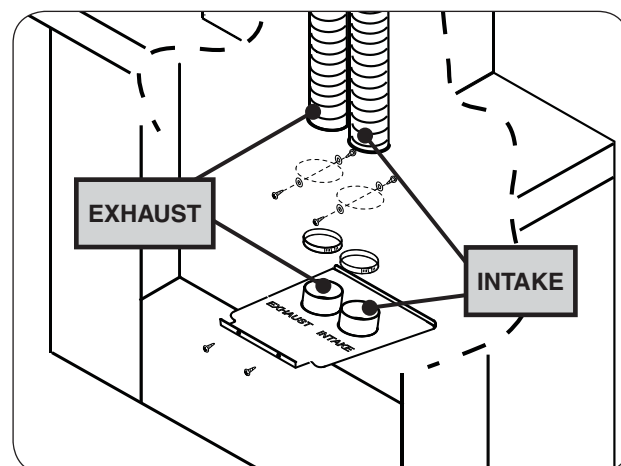

Fig. 25-3 Install vent adapter
7. Remove any excess slack in the flex line. Then attach the flex liners to the vent adapter using the four provided #10 x $\frac{3}{4}$ " screws, flat washers, and a Phillips screwdriver. Further secure with the supplied pipe clamps. See Fig. 25-3.